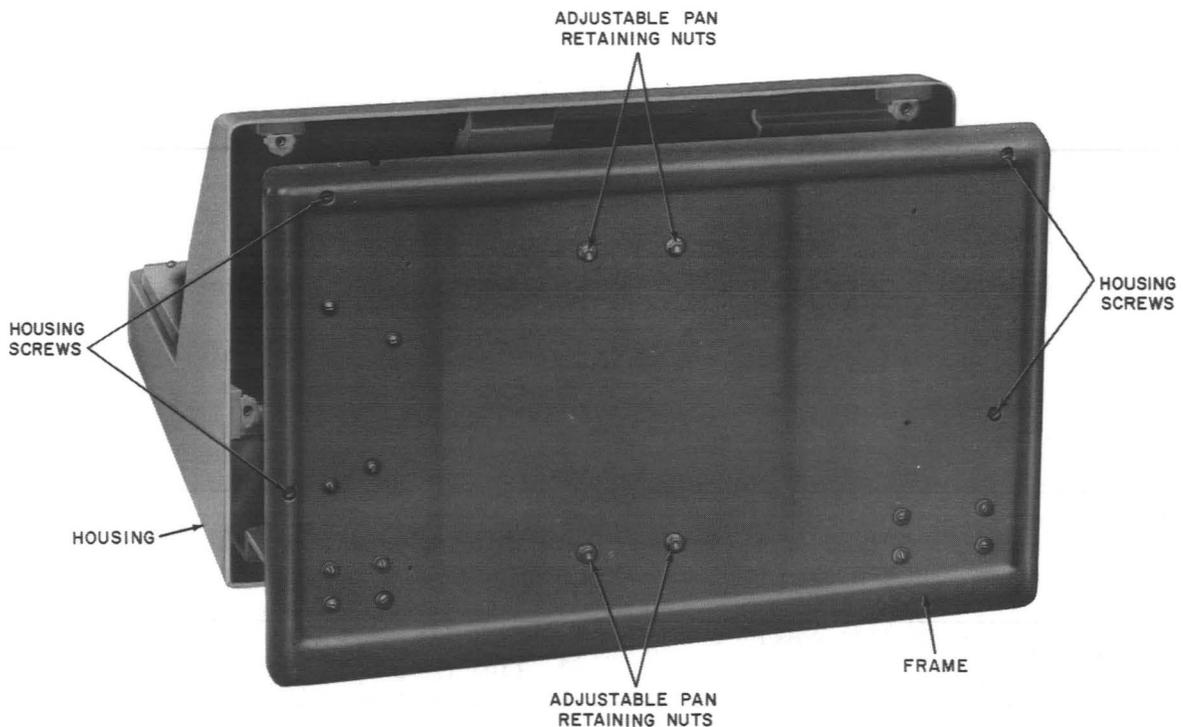

Fig. 3 — Bottom View of Housing and Frame
- (1) Remove the housing of the F-56503-A by loosening four housing screws (Fig. 3) and remove the packing detail.
- (1) Remove the housing by loosening the four housing screws (Fig. 3) and remove the packing detail.
- (2) Secure the telephone handset cord stay to the left front of the frame.
- (3) Install two F-15T8CW lamps in the lamp sockets provided.